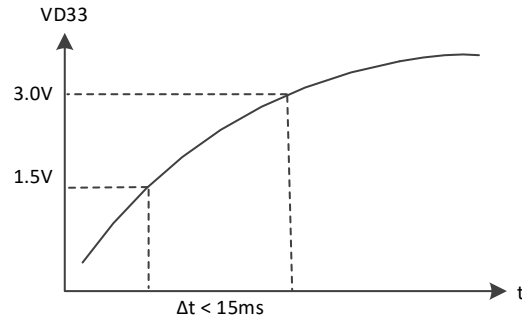

Figure 6-4 Power-on waveform
- The power-on voltage waveform is consistent with Figure 6-4.